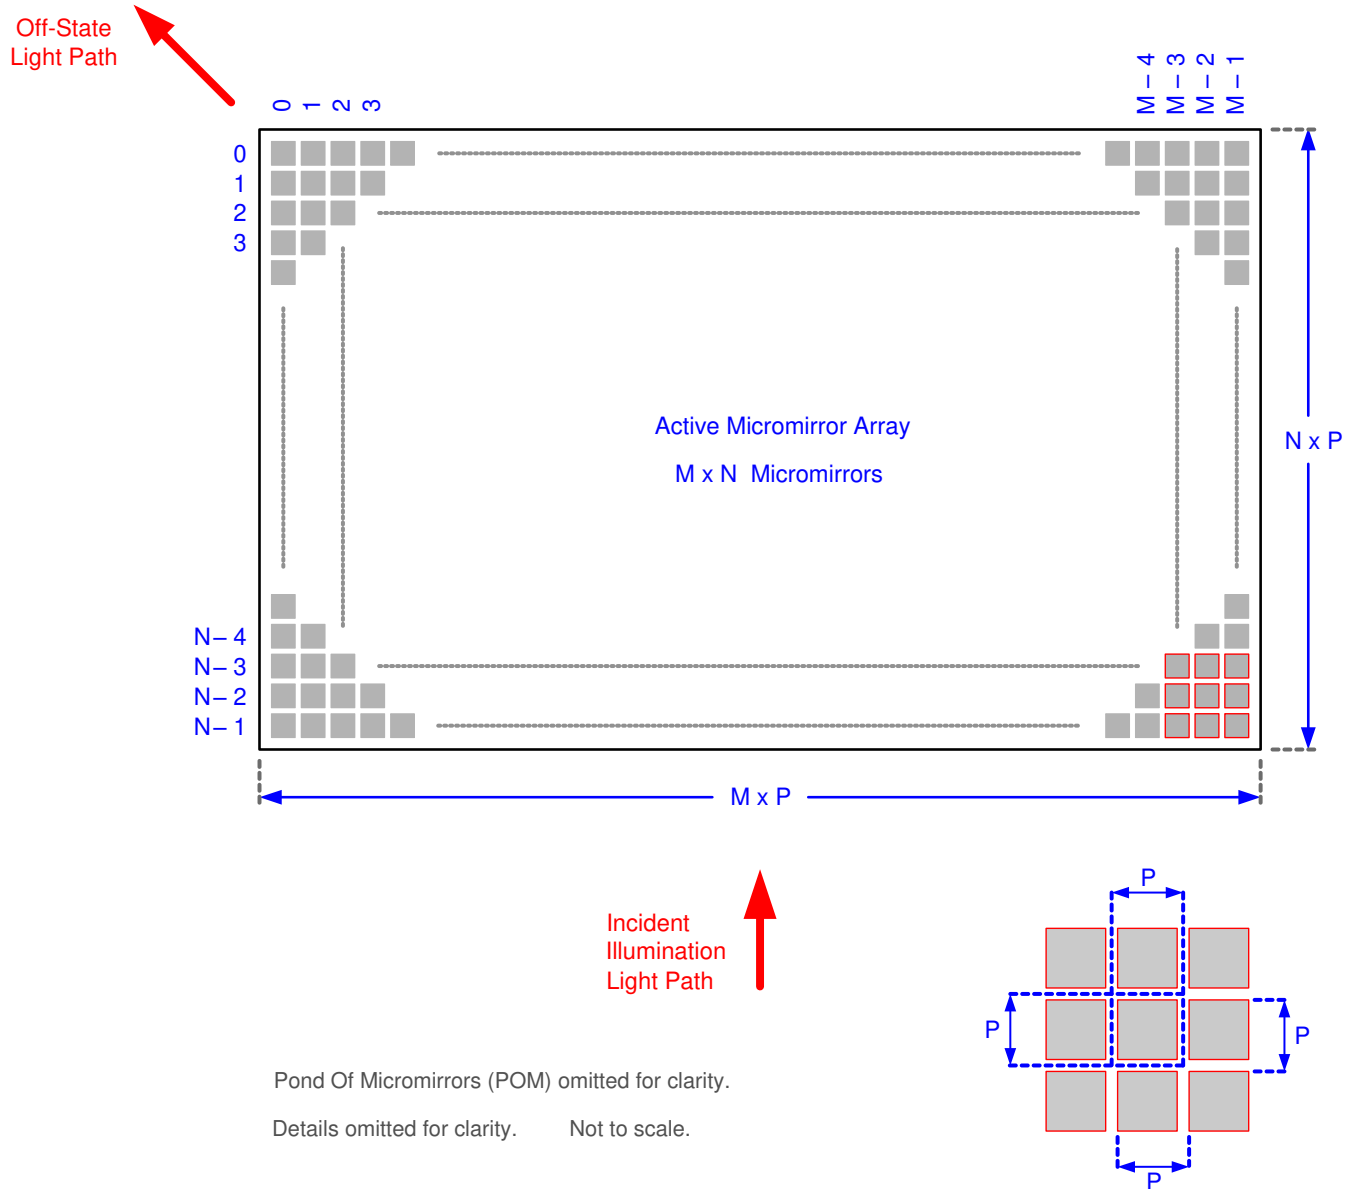

Figure 6-8. Micromirror Array Physical Characteristics
(1) See Figure 6-8.
(2) The structure and qualities of the border around the active array includes a band of partially functional micromirrors called the “Pond Of Mirrors” (POM). These micromirrors are prevented from tilting toward the bright or “on” state but still require an electrical bias to tilt toward “off.”